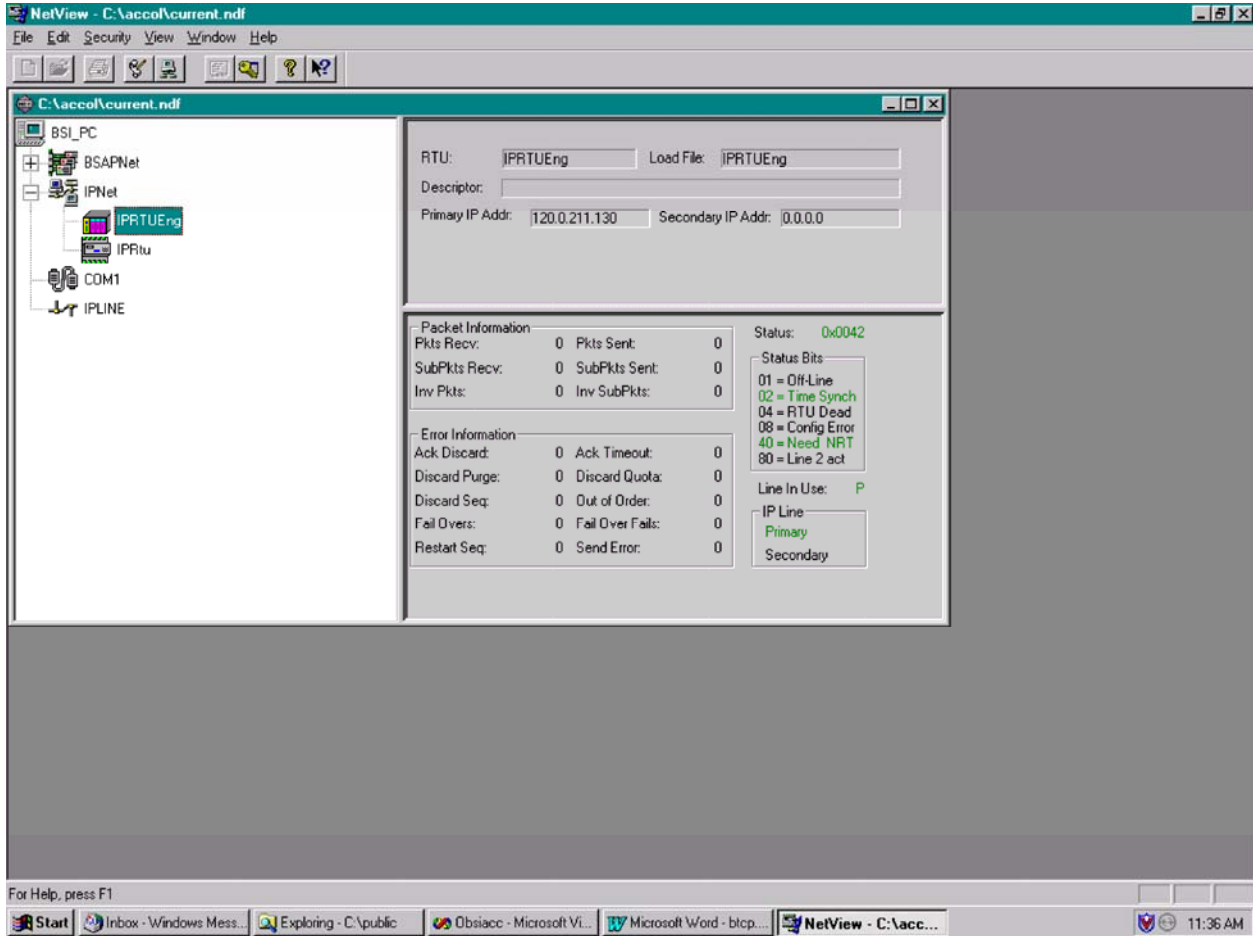

Figure 3-4 - Netview Startup Menu - Example with Multiple Networks
1. Start the OpenBSI NetView Program. A menu similar to Figure 3-4 will appear.